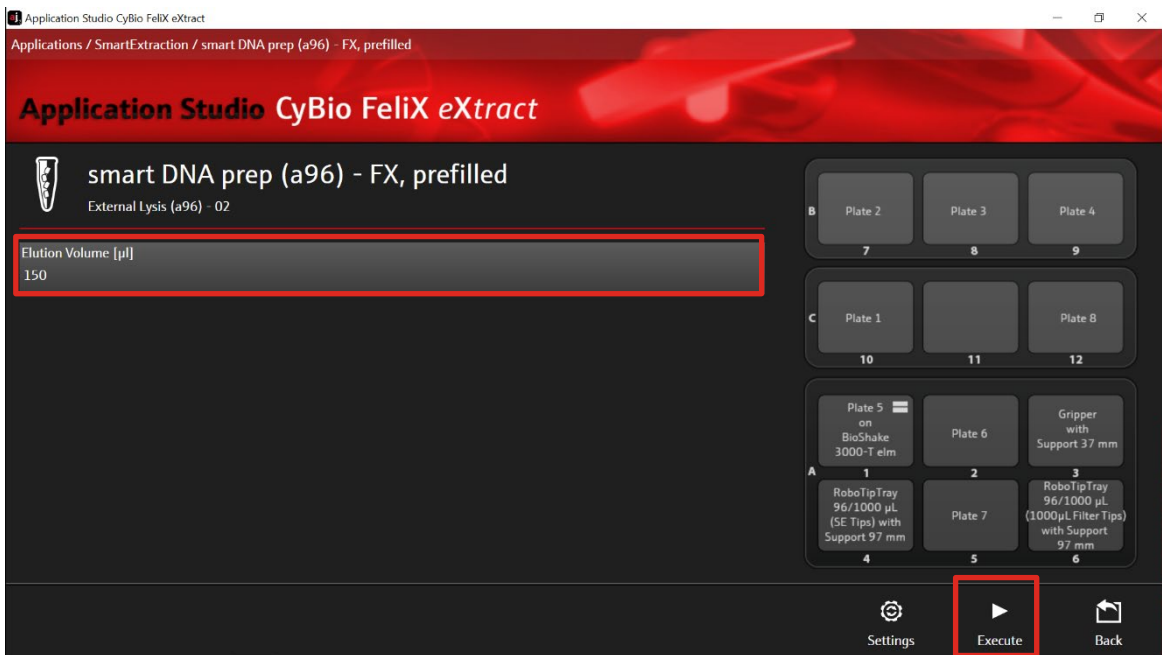

Figure 7: Adjustment of the elution volume.
- Adjust the “Elution Volume” to 150-500 μL according to the table below. Start the protocol by clicking the button “Execute” (\rightarrow see Figure 7).